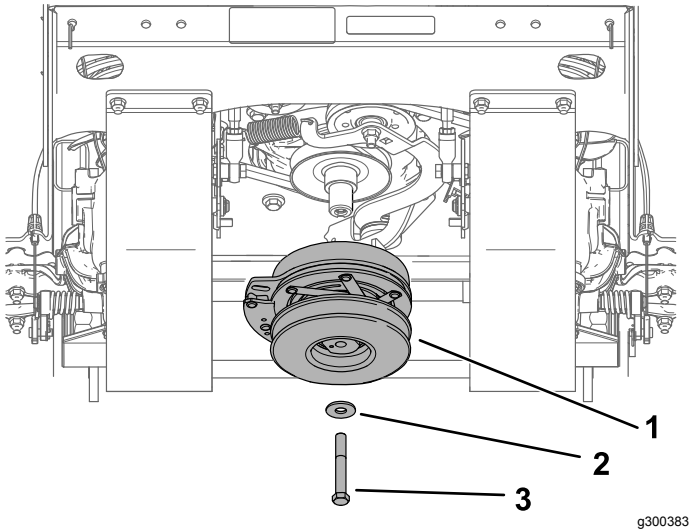

Figure 56
4. Remove the clutch pulley (Figure 56).
12. Install the clutch pulley (Figure 56). Torque the bolt to 68 to 81 N·m (50 to 60 ft·lb).